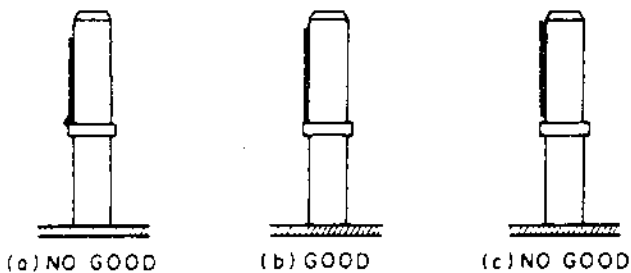

Fig. 5-4
- 4) Slightly turn the (a) screw until the tape edge barely touches the lower part of the TAKE UP TAPE GUIDE without any curl or wrinkle as shown in Fig.5-4.